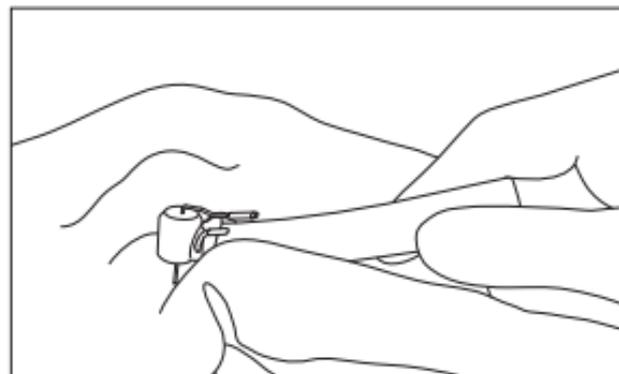

Fig. 14
- 5) Wipe the exterior of the handpiece clean using a cloth moistened with disinfectant or ethanol with a concentration of 60-90%. (Fig. 14)